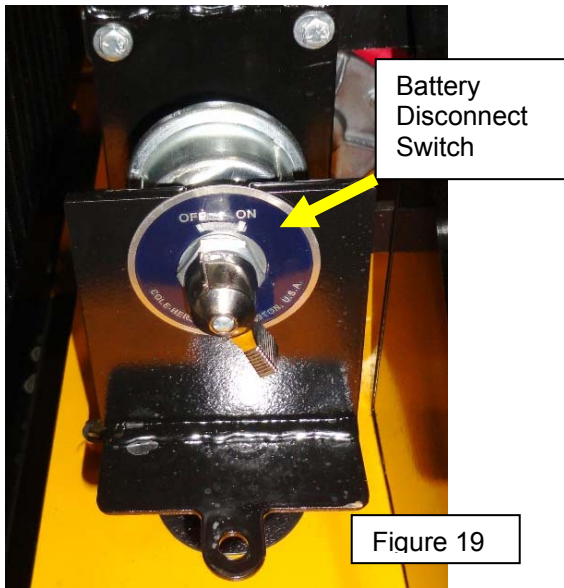

Figure 19
3. Turn the battery disconnect switch (Figure 19) to the ON position and at the logic control box turn ignition switch to the ON position to activate controls.